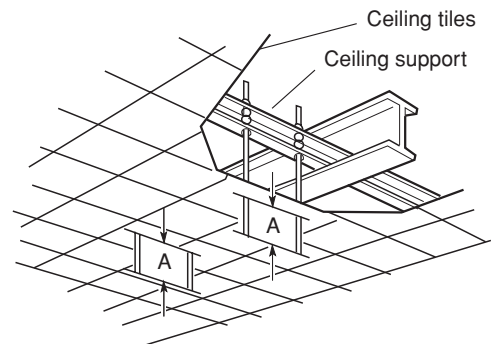

Fig. 3-70
- b) Use existing ceiling supports or construct a suitable support as shown in Fig. 3-70.